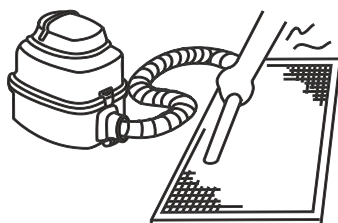

Figure 13.1
- a. The air intake side should face up when using a vacuum cleaner. (Refer to Figure 13.1)